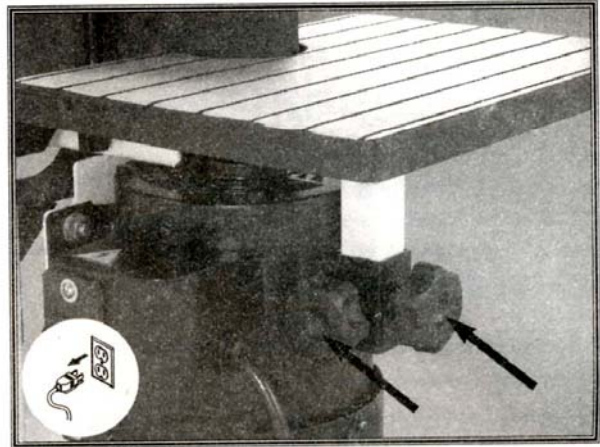

Figure 16. Height adjustment knobs.
2. Loosen the lock knobs in **Figure 16** to adjust the contour table height to the desired position. Note— *Keep enough of the table post in the bracket so the adjustment knobs can make contact.*